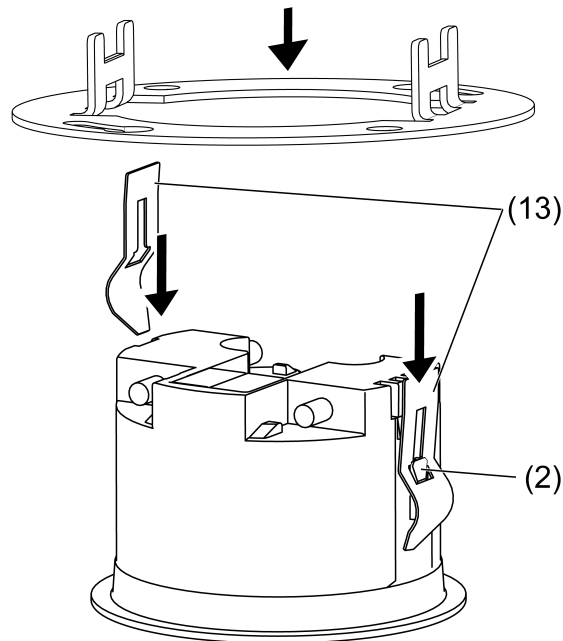

Figure 9
- Push friction springs (13) in the right orientation on the guides (2) from behind until they snap into place (Figure 9).